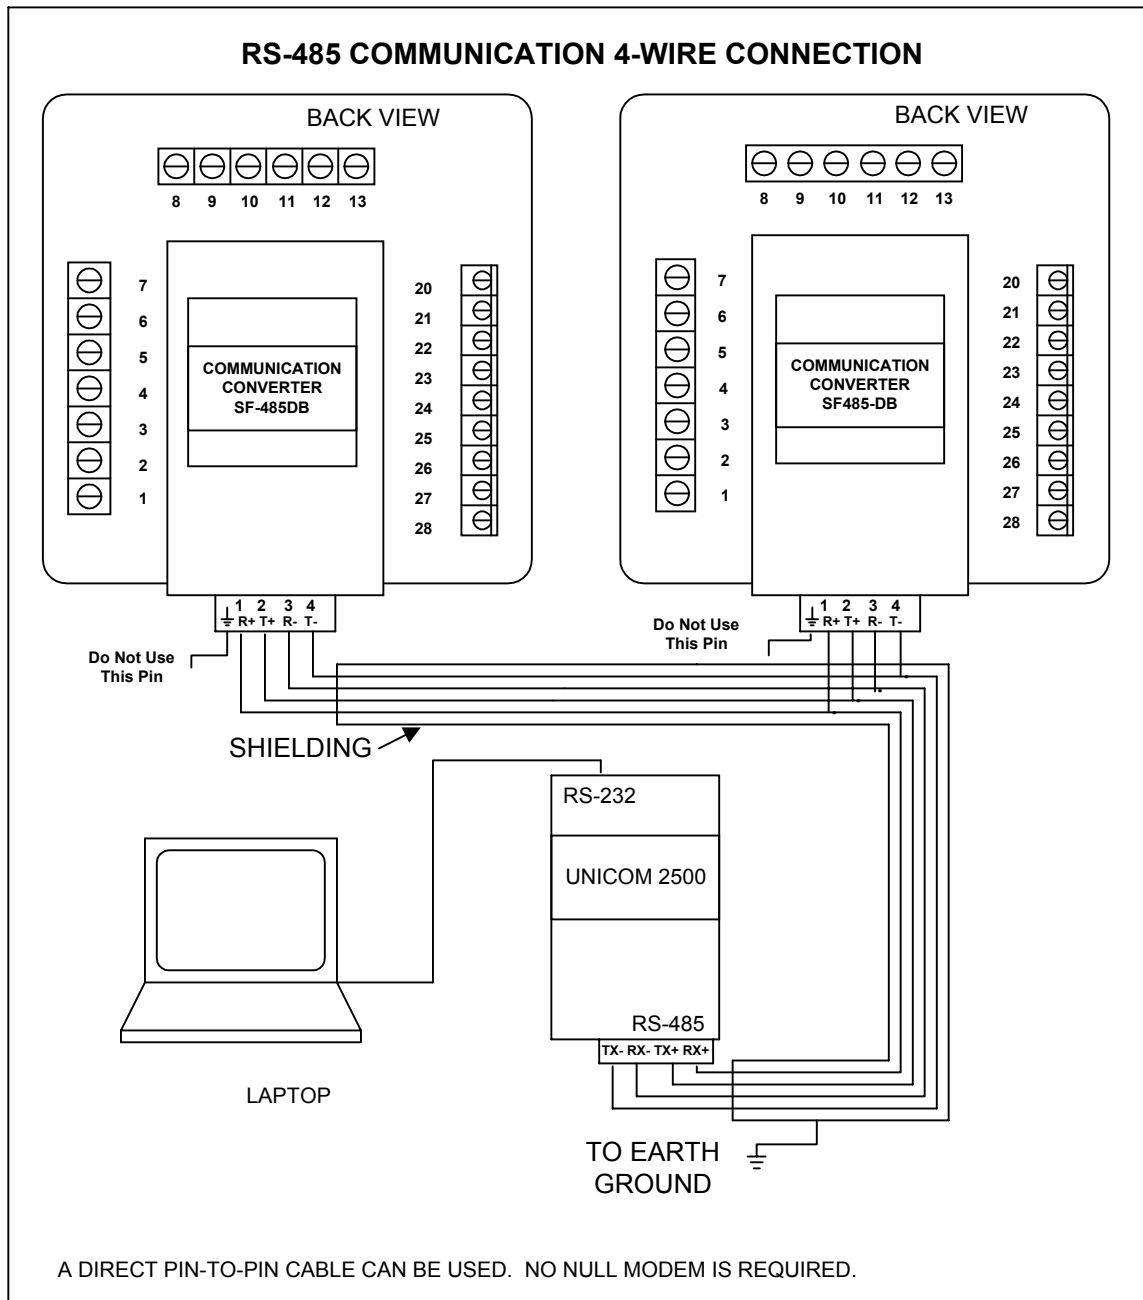

Figure 4.3: 4-Wire RS-485 Communication Connection Installation
- When all four wires are used, the link can include up to 60 instruments (See Figure 4.3).